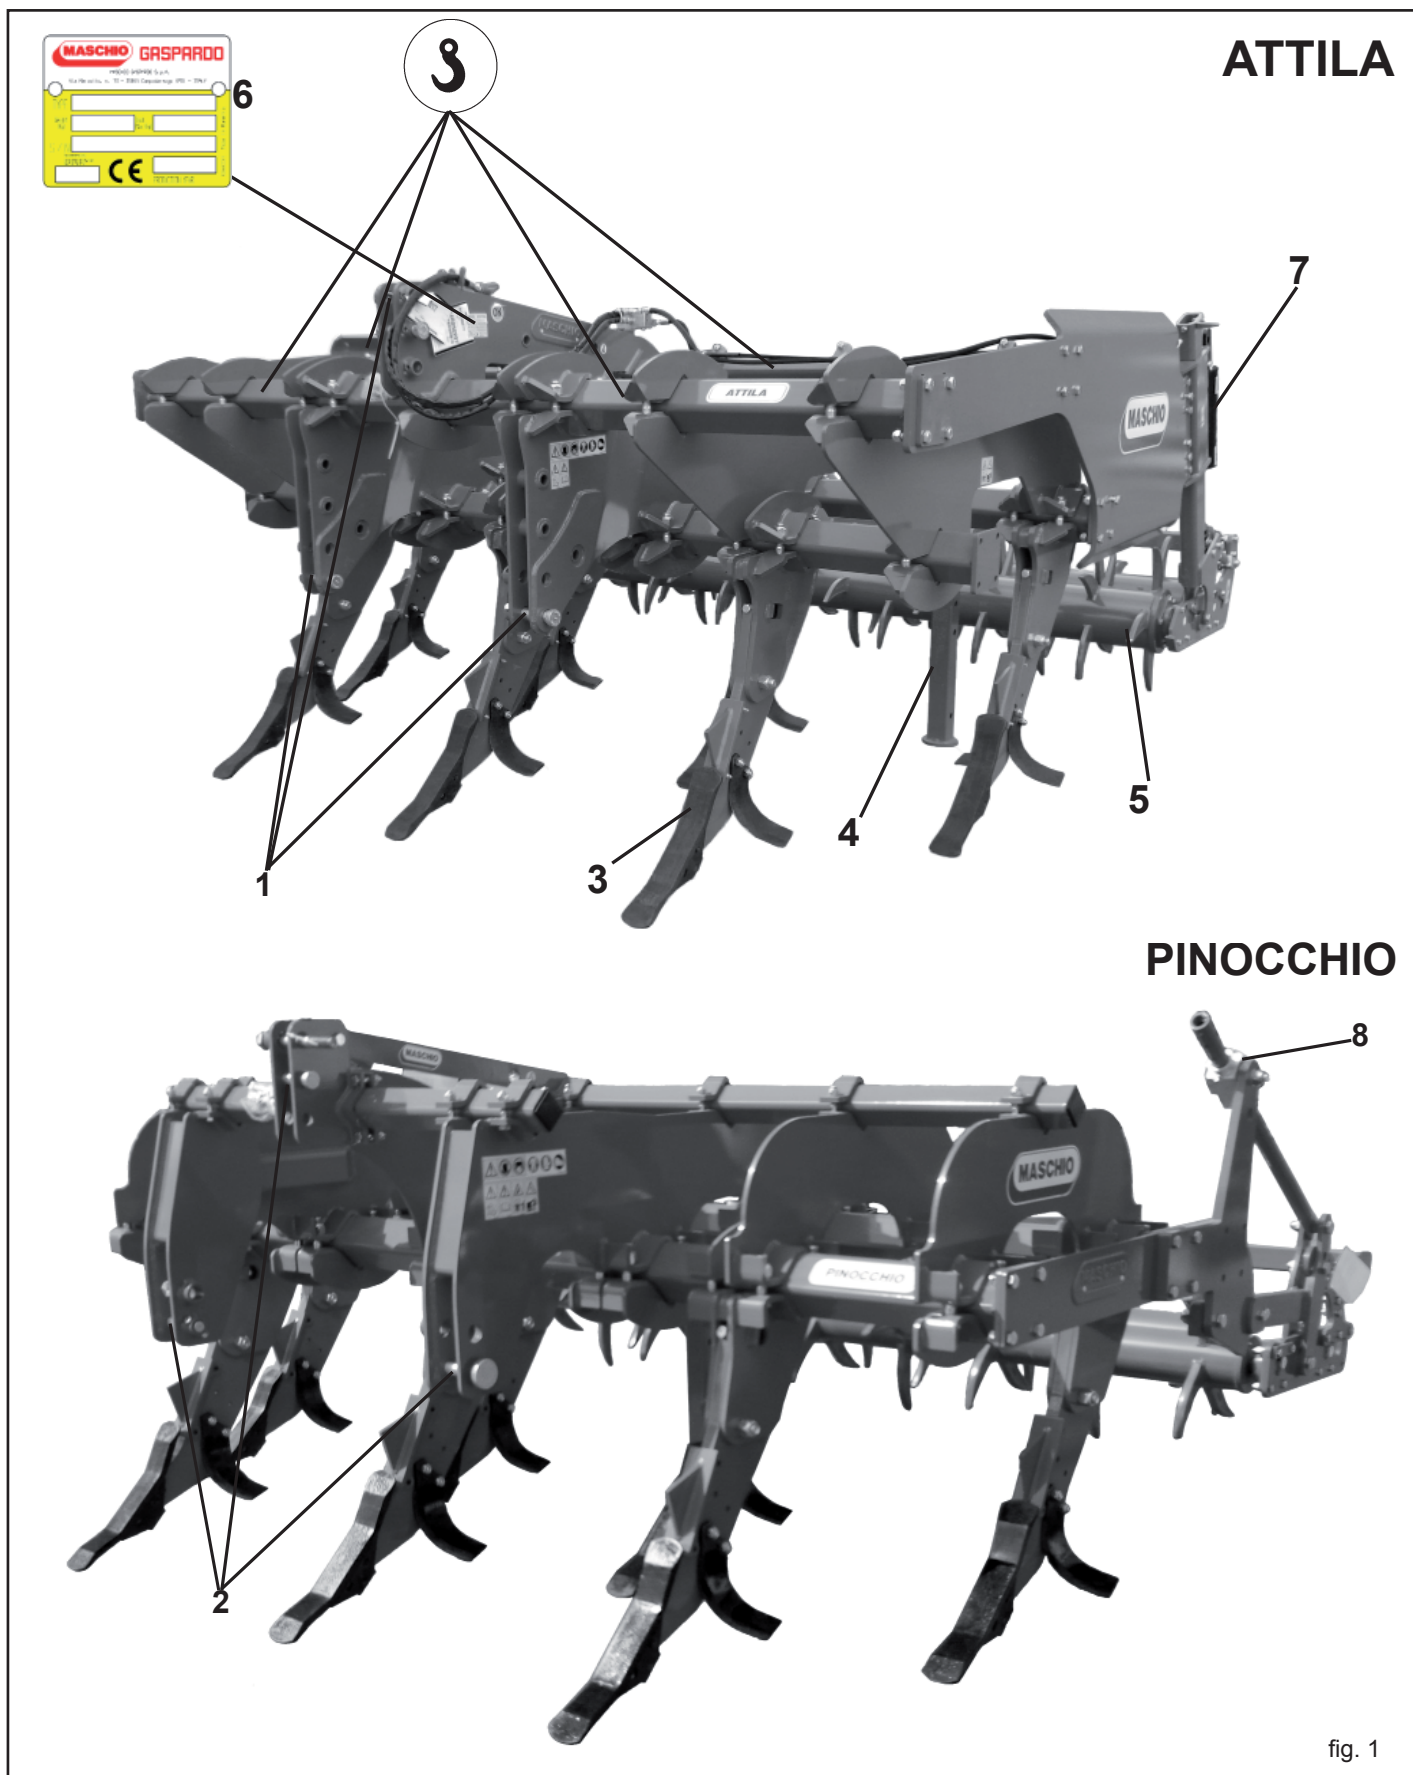

fig. 1
If the machine is handled, it must be lifted by hooking onto the appropriate holes with a suitable winch or crane of sufficient capacity. Due to the dangerousness of this operation, it should only be performed by skilled and expert personnel. The mass of the machine is on the identification Plate (5 Fig. 1).
1.6 ASSEMBLY DRAWING (Fig. 1)